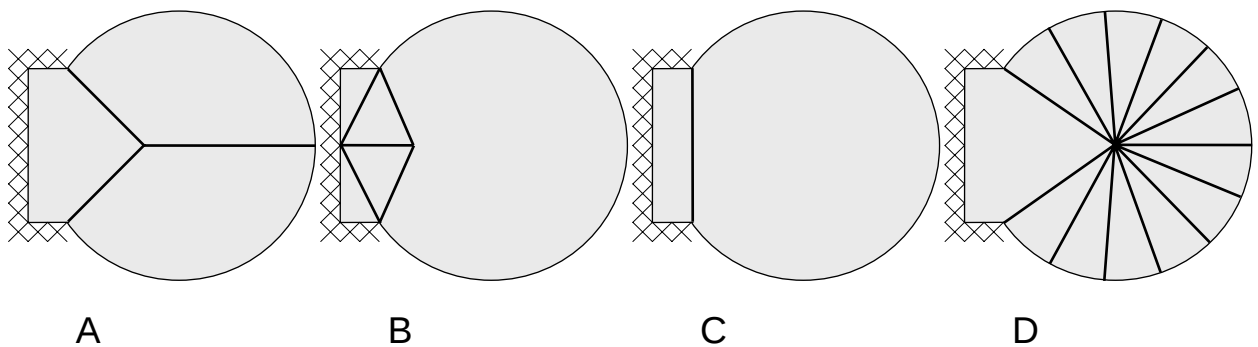

Figure 4. Yield line patterns of problem 2a
- a Consider the yield line patterns of Figure 4. Which of these patterns give kinematically possible mechanisms. (1 point)